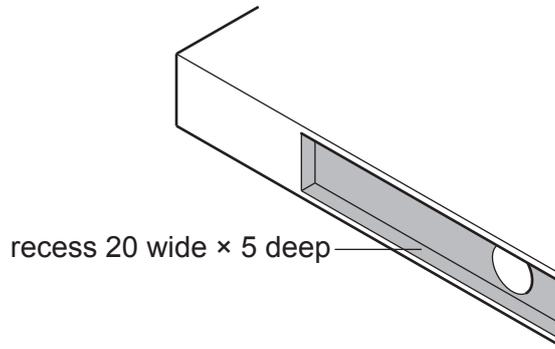

Fig. 13.3
- (c) Fig. 13.3 shows part of the back of the shelf.